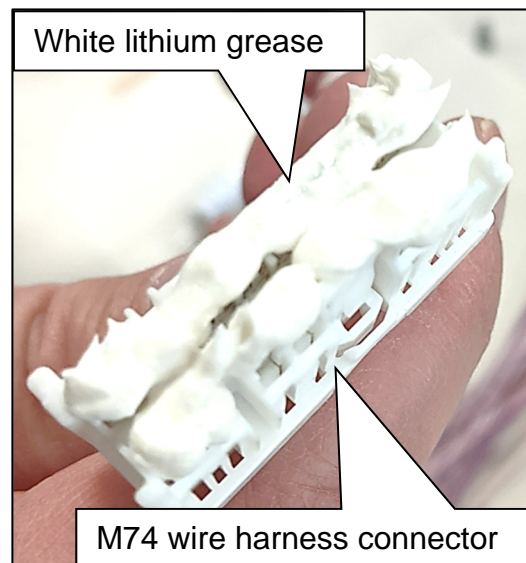

Figure 26
- Only add enough grease to coat the terminals, as shown in Figure 26.